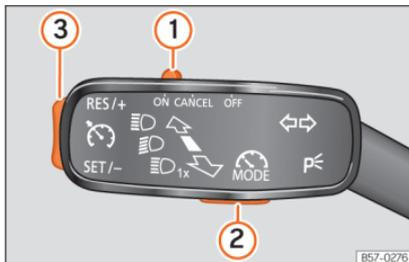
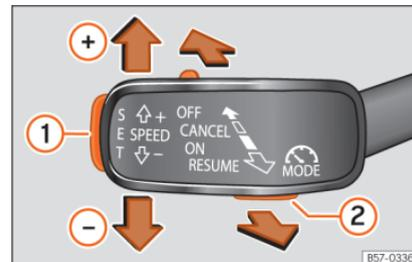

Fig. 226 On the turn signal lever: buttons to operate the speed limiter.
Fig. 227 On the left of the steering column: buttons to operate the speed limiter.
To change between the driving assistance systems, press button  » **Fig. 226**  or » **Fig. 227** , then select with the right thumbwheel on the multifunction steering wheel in the instrument cluster menu and press the thumbwheel to confirm your selection.
- Move control » Fig. 226 ① to position **ON** and press button ②.
- While driving, press button » Fig. 226 ③ in the area **SET/-**.
You can set the speed using button » Fig. 226 ③:
- Move control » Fig. 226 ① to position **OFF**.
If you want to temporarily deactivate the speed limiter, e.g. for overtaking, move the control » Fig. 226 ① to position **CANCEL** or press button ②.
After overtaking, the speed limiter can be activated with the previously programmed speed by pressing button » Fig. 226 ③ in the area **RES/+**.
- Move the lever towards the steering wheel to position **ON** and press button » Fig. 227 ②.
- While driving, press button **SET** » Fig. 227 ①.
- Press the button **SET** »» Fig. 227 ① to reduce speed in small increments of 1 km/h (1 mph).
If you want to temporarily deactivate the speed limiter, e.g. for overtaking, move the lever to the pressure point **CANCEL** or press button »» Fig. 227 ②.